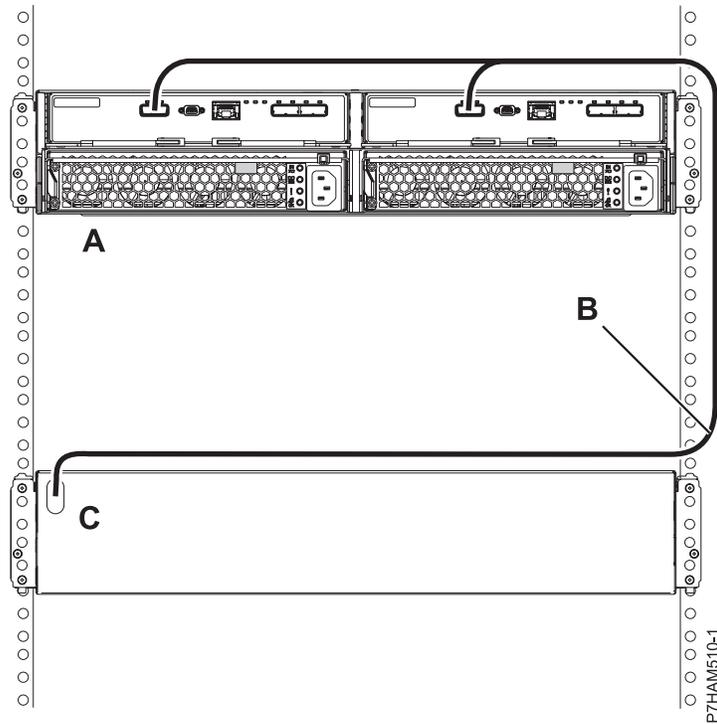

Figure 28. Mode 1 connection of one 58/87 disk drive enclosure by using a YI cable to a system with support for a single SAS drawer
- h. Perform the mode 1 connection of one 58/87 disk drive enclosure (A) by using a YI cable (B) to a system with support for a single SAS drawer (C) as shown in Figure 28 on page 25.